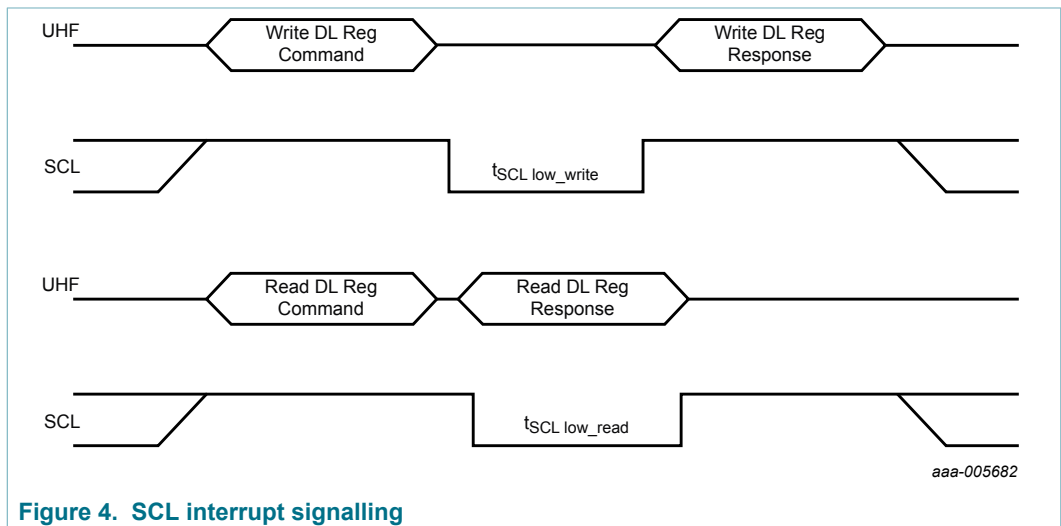

Figure 4. SCL interrupt signalling
- If the SCL INT enabler of the ConfigWord is set (20Bh) the SCL line will be pulled low for at least 210 μs in case new data was written by the reader or at least 85 μs in case new data has been read by the reader (see Figure 4 "SCL interrupt signalling" and Table 8 "Interrupt signaling via the I2C-SCL line timing").